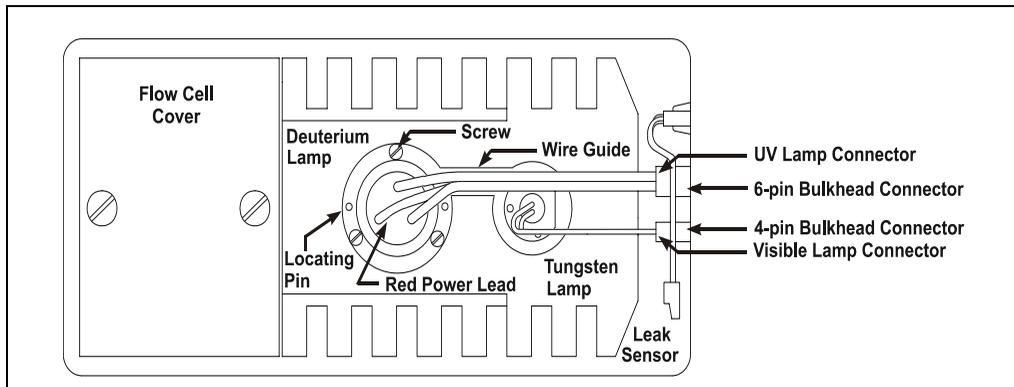

Figure 5-3. Lamp Connections
8. Squeeze the clip on the UV lamp connector and disconnect it from the 6-pin bulkhead connector on the side wall (see Figure 5-3).
9. Loosen the three screws in the deuterium lamp flange (see Figure 5-3) and pull the lamp out of the optical bench.
11. Line up the flange of the new lamp with the two locating pins and three threaded holes in the optical bench (see Figure 5-3). When the flange is aligned, gently push the lamp into the optical bench.
13. Squeeze the clip on the UV lamp connector and insert it into the 6-pin bulkhead connector on the side wall. Route the wires through the wire guide in the optical bench (see Figure 5-3).
8. Squeeze the clip on the visible lamp connector and disconnect it from the 4-pin bulkhead connector on the side wall (see Figure 5-3).
12. Squeeze the clip on the Vis lamp connector and insert it into the 4-pin bulkhead connector on the side wall. Route the wires through the wire guide in the optical bench (see Figure 5-3).